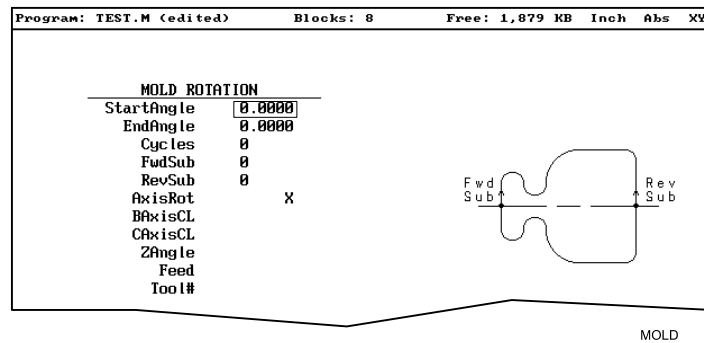

Figure 5-37, MOLD ROTATION Graphic Menu
2. Highlight **Mold Rotation**, and press **ENTER** to display the **MOLD ROTATION** Graphic Menu. Refer to **Figure 5-37**.